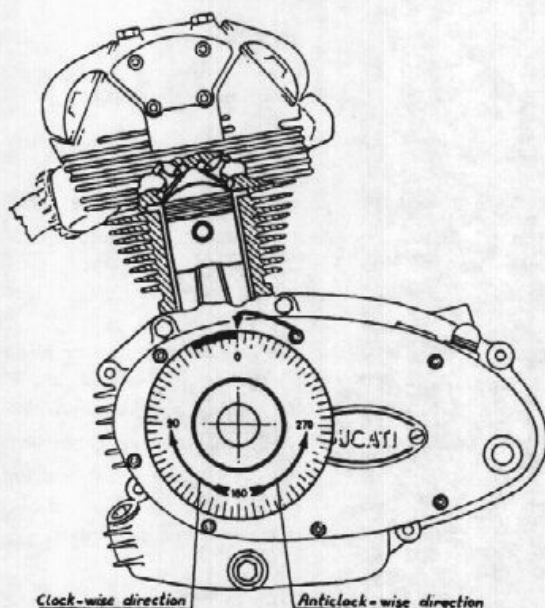

Fig. 34
- 1) Remove the threaded plug opposite the engine shaft and mount the special protractor (fig. 34).
- 2) Fix an indicator on a cover tightening screw (fig. 34).
- 3) Place the engine at top dead centre (TDC) in the compression phase and make the protractor coincide with the indicator at the zero (fig. 34).